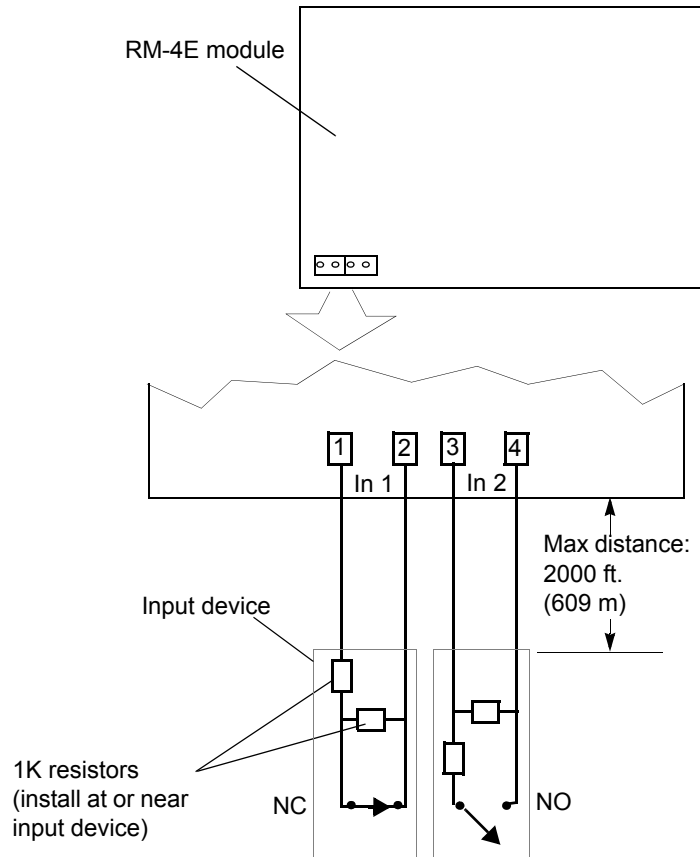

Figure 4.7: Wiring Setup for Supervised Inputs
Figure 4.7 shows typical supervised input wiring, and provides an example of wiring for Normally Closed (NC) and Normally Open (NO) wiring using 1K Ohm resistors (install the resistors near the switch).